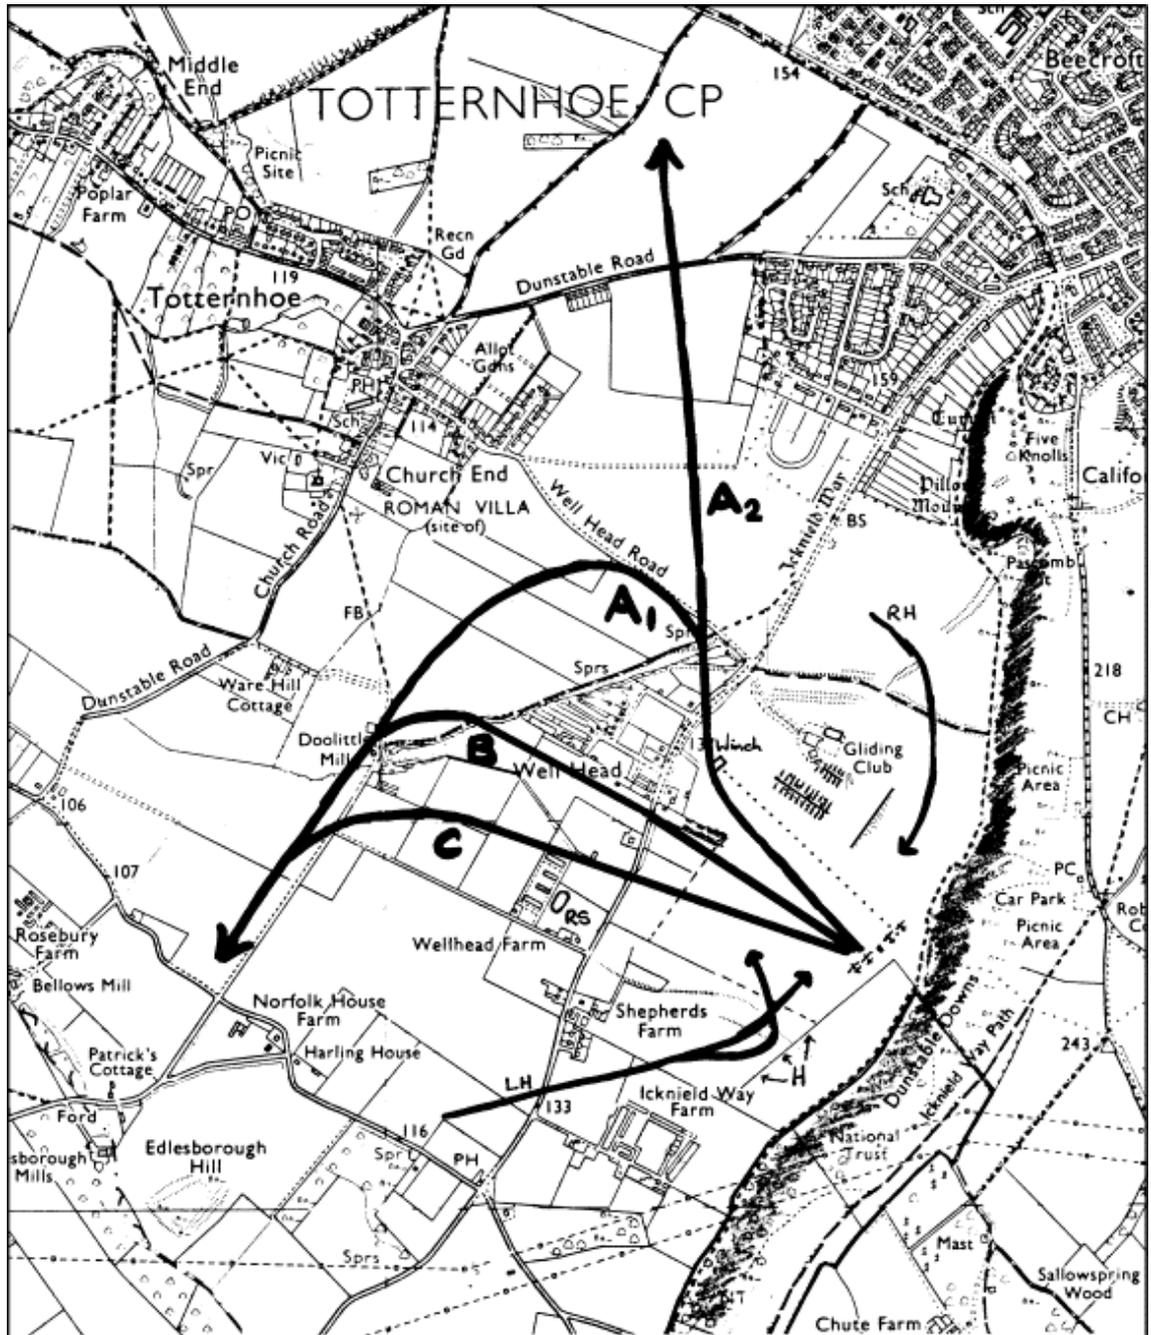

Figure 4
Take off. This take-off run is particularly noise sensitive and the direct overflying of the houses on the Tring Road **must** be avoided at all times. This allows three possible take-off paths, as shown in Figure 4. The most northerly (A) goes very close to the winch and special care must be made to co-ordinate with the tower. The middle options (B) keeps just to the south of the hedge line. The southerly option (C) allows a little more space but goes very close to the